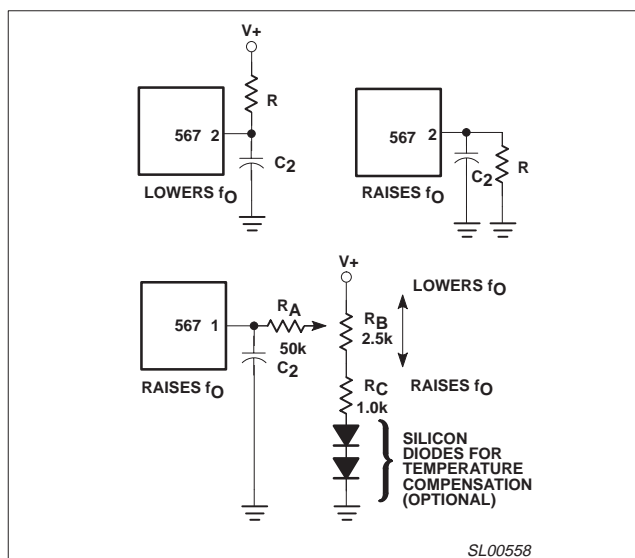

Figure 21. Skew adjust
**DETECTION BAND CENTERING (OR SKEW) ADJUSTMENT** (Figure 21)